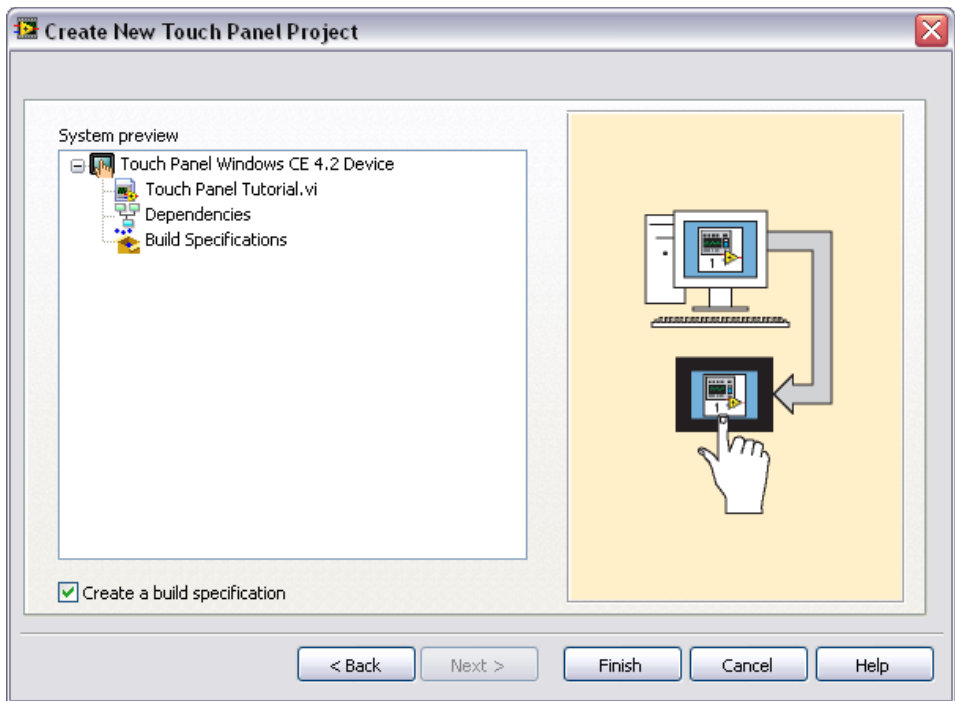

Figure 3. Previewing the Project
6. The **System preview** page, shown in Figure 3, shows a preview of the project the wizard creates when you click the **Finish** button. Notice the checkmark in the **Create a build specification** checkbox. This checkmark indicates you want to create a build specification immediately after you create the project. Refer to the Creating the Touch Panel Build Specification section for more information about creating build specifications.
Because the **Create a build specification** checkbox contains a checkmark as shown in Figure 3, the **Touch Panel Build Specification Properties** dialog box opens when you click the **Finish** button.